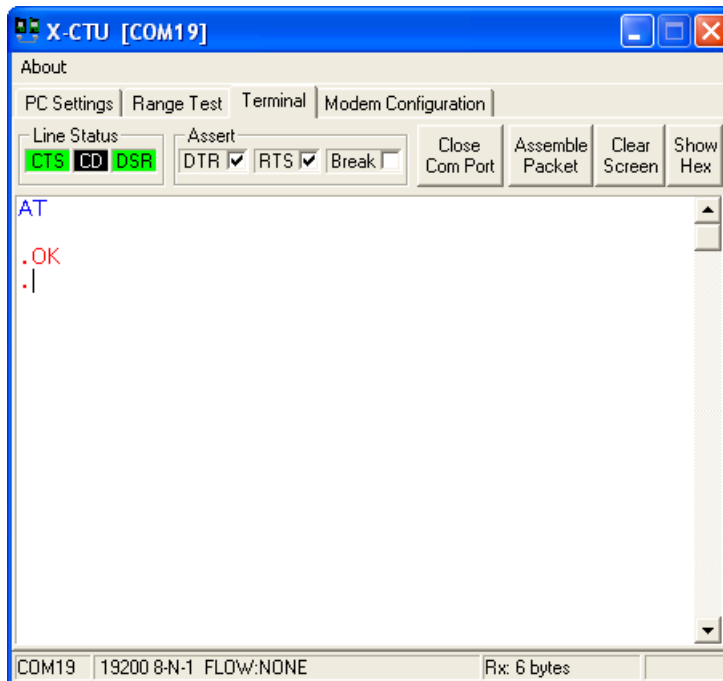

Figure 11-4: X-CTU Dialog – Terminal Tab
- 6) If you get a response (for example, as shown in Figure 11-4), the port is verified.